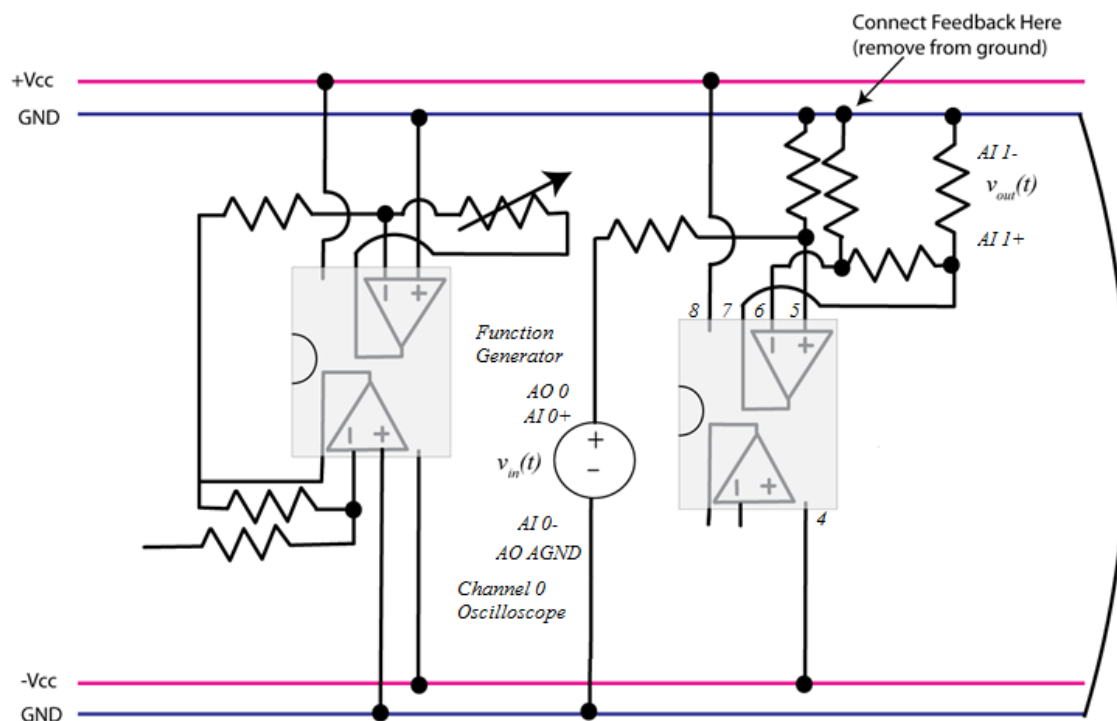

Figure 8: Differential Amplifier Schematic
1. In this part you will build the differential amplifier in Figure 8. Place another op amp on the breadboard as close as possible to the prefilter circuit. Make sure that the dot is to the left and the op amp straddles the ditch.